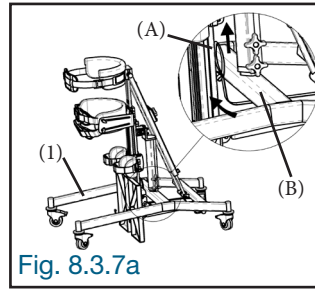
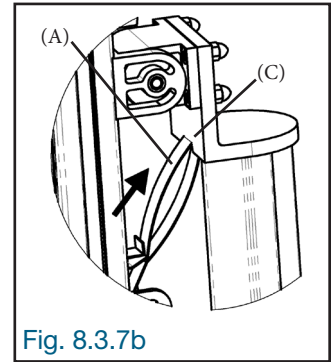
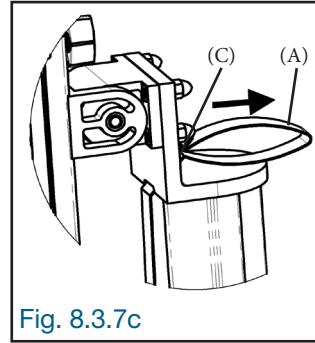

Fig. 8.3.7a
Fig. 8.3.7b
Fig. 8.3.7c
8.3.7 Pass the activation strap (A) of the jack under the central crossbar (B) of the base (1) and pull it up (Fig. 8.3.7a). Insert the activation strap (A) into the slot (C) (Fig. 8.3.7b). Pull the strap (A) so that the handle of the strap is completely disengaged from the slot (C) (Fig. 8.3.7c).